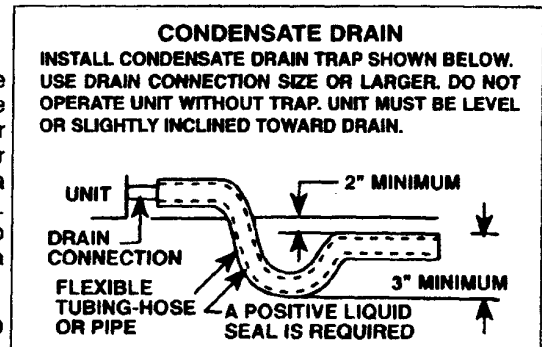

Figure 1
4. If condensate drain connection is on the negative side of the blower, a trap must be installed to insure positive drainage. (See Fig. 1).